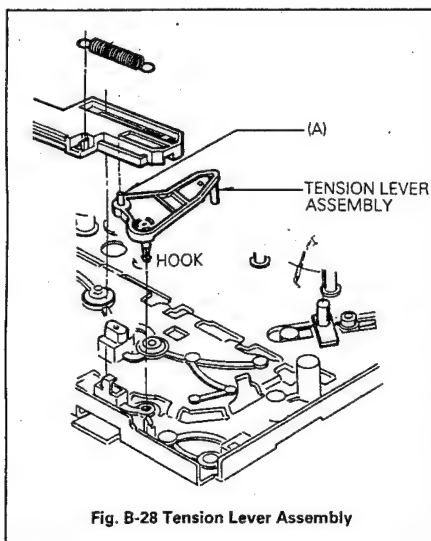

Fig. B-28 Tension Lever Assembly
- 1) When reassembling, the groove of Lower part of Function Plate should be aligned with the shaft of Tension Lever Assembly(Fig. B-28).
## 28. Tension Lever Assembly(Fig. B-28)